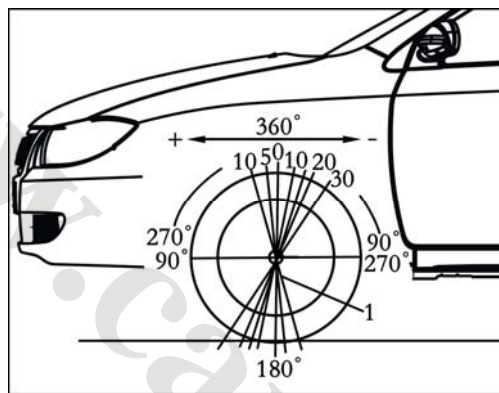

Fig. 2-3
(1) Kingpin caster angle: It refers to the angle between the highest point of the wheel steering center and the vertical direction in the view at the side of the vehicle, as shown in Fig. 2-3. The caster angle is positive (+), while the front rake angle is negative. The retroversion of the kingpin will influence the control on the direction of the steering mechanism, but not on the wear and tear of the wheels. In case of a larger positive kingpin caster angle of a wheel than that of other wheels, this wheel will drive towards the center line of the vehicle and the vehicle will move forwards towards the side with a smaller positive kingpin caster angle.